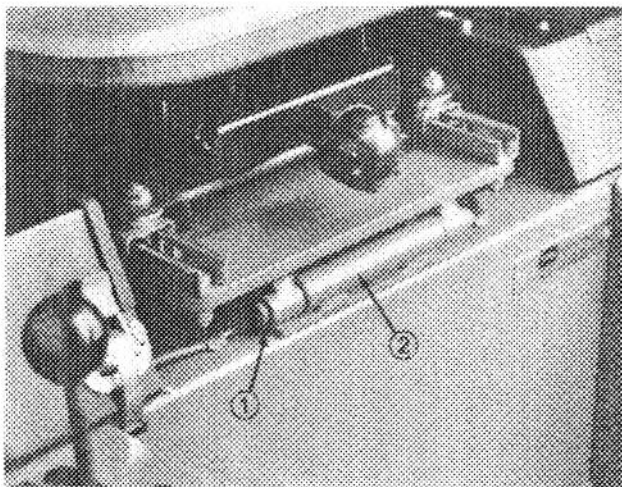

Figure 13
12. Mount seat and seat support to unit with pivot shaft and roll pin (Fig. 13).